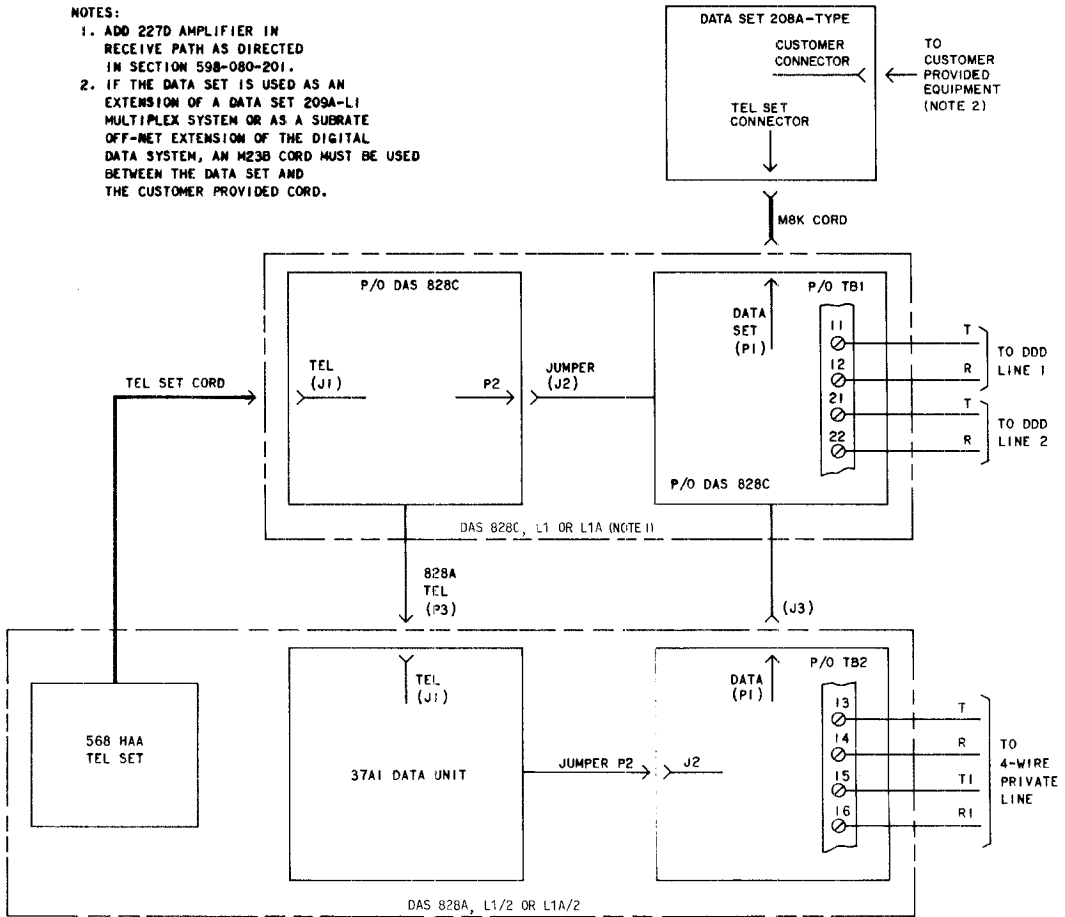

Fig. 8—DS 208A-Type Used on 4-Wire Private Line With Alternate DDD Backup Using DAS 828A and 828C, Data/Voice
3.05 Connections for DAS 828C to provide alternate switched network backup are shown in Fig. 7 and Fig. 8. The connections for data only are shown in Fig. 7, while the connections for data/voice are shown in Fig. 8. Detailed information pertaining to DAS 828C is contained in Section 598-080-101.